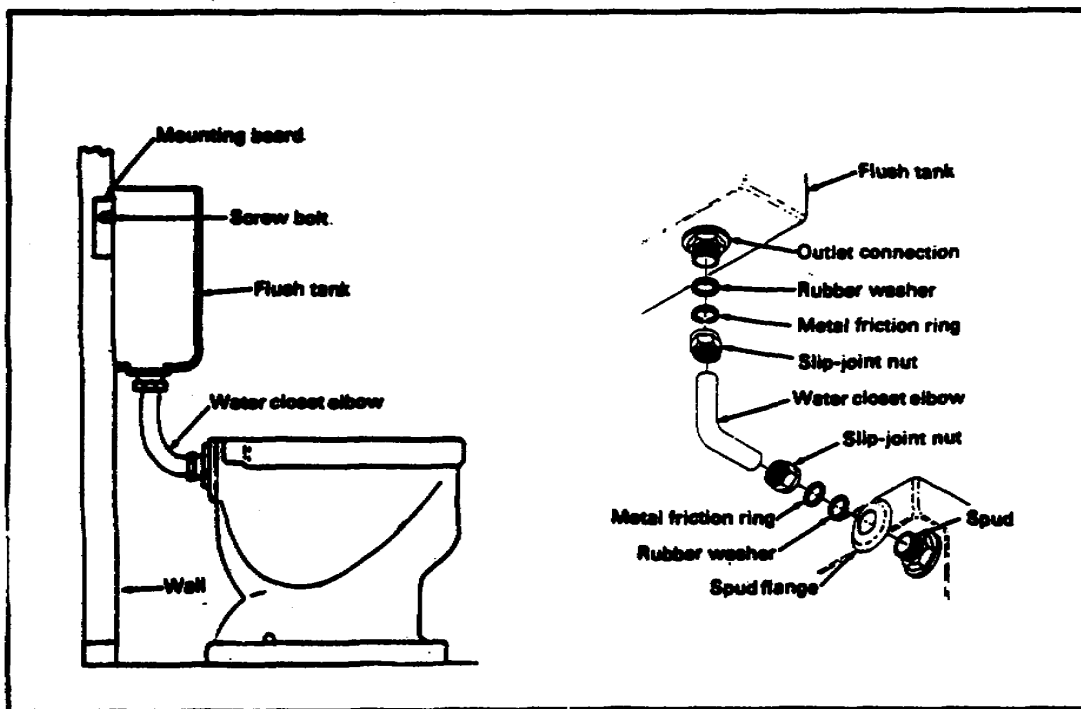

FIGURE 25. CONNECTING A WALL-HUNG TANK TO CLOSET BOWL
**Connecting a wall-hung tank to the closet bowl.** Use the following steps to install a wall-hung flush tank to rear of closet bowl (see Figure 25):